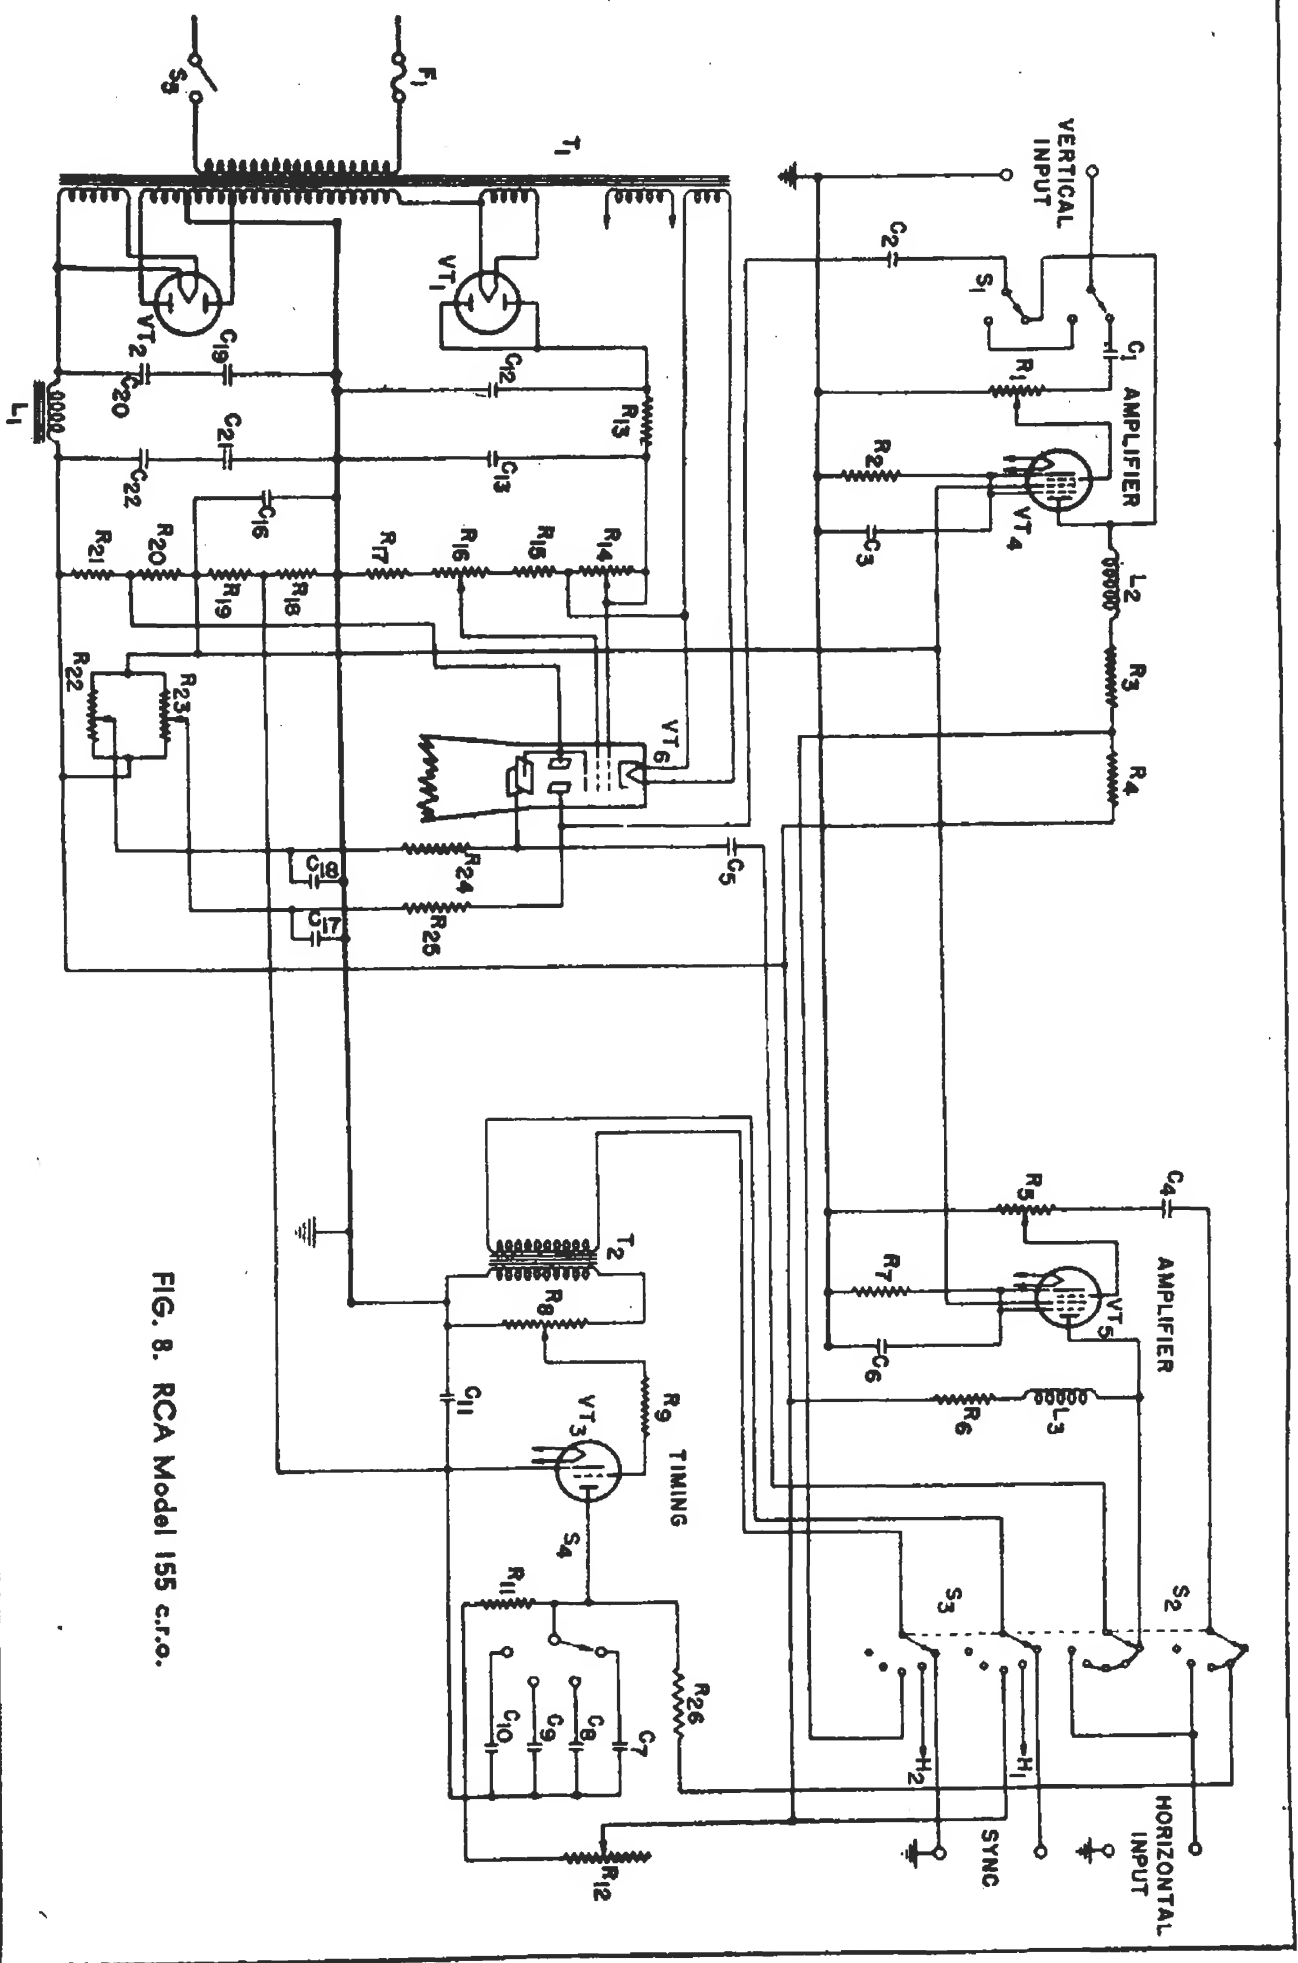

FIG. 8. RCA Model 155 c.r.o.
Fig. 8 is the wiring diagram and Fig. 9 shows the controls and general appearance of the RCA 155, chosen as an example of a typical service instrument. The instrument has in it a cathode ray tube, a high-voltage power supply, amplifiers for the horizontal
Power Supply. There are two complete power supplies in Fig. 8. The section using rectifier VT_2 is the low voltage supply. It is similar to the power pack in a large receiver, furnishing about 400 volts for the operation of the amplifiers and sweep circuit. As this is a rather high d.c. voltage, the filter condensers are in series, to increase the voltage rating. Thus, condensers C_{19} and C_{20} together give half the capacity and twice the voltage rating of a single condenser.
Sweep Generator. The sweep generator is marked "timing" in Fig. 8 and uses the gas discharge tube VT_3 and a selector switch S_4 , which connects the proper condenser into the circuit for the frequency range desired. The condensers C_7 to C_{10} cover the range 15 to 22,000 cycles in four overlapping ranges. The chosen condenser is charged through R_{11} and R_{12} , the latter being adjustable to give a "fine" frequency control.
Turn up the *HORIZONTAL GAIN* control (*R*₅ in Fig. 8) and the spot will turn into a faint horizontal line. Increase the intensity setting and the horizontal line will become brighter. When the spot begins to move, fewer electrons strike any given point on the screen in a given time, and brightness drops. It is safe to increase the number of electrons in the beam by adjusting the intensity control, since the spot does not stay in one position long enough to damage the screen. Adjust the *HORIZONTAL GAIN* control so that the line extends about two-thirds the distance across the face of the tube.
Step 8. Now rotate the *TIMING SYNC* control (*R*₈ in Fig. 8) to about mid position. We are now ready to ad-